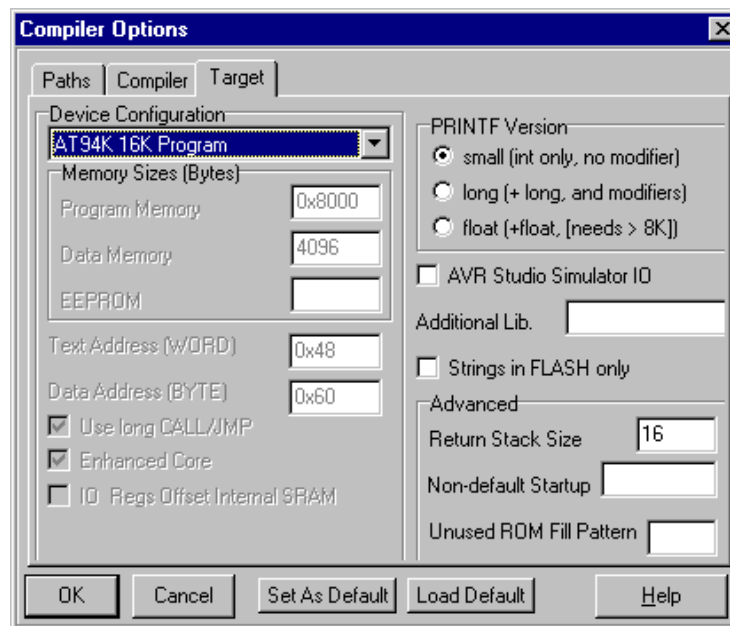

Figure 2: ImageCraft C Compiler Options – Target Tab
3. Configure the new project by choosing Project -> Options, from the “Target” screen select “AT94K 16K Program” for “Device Configuration” (See **Figure 2**).